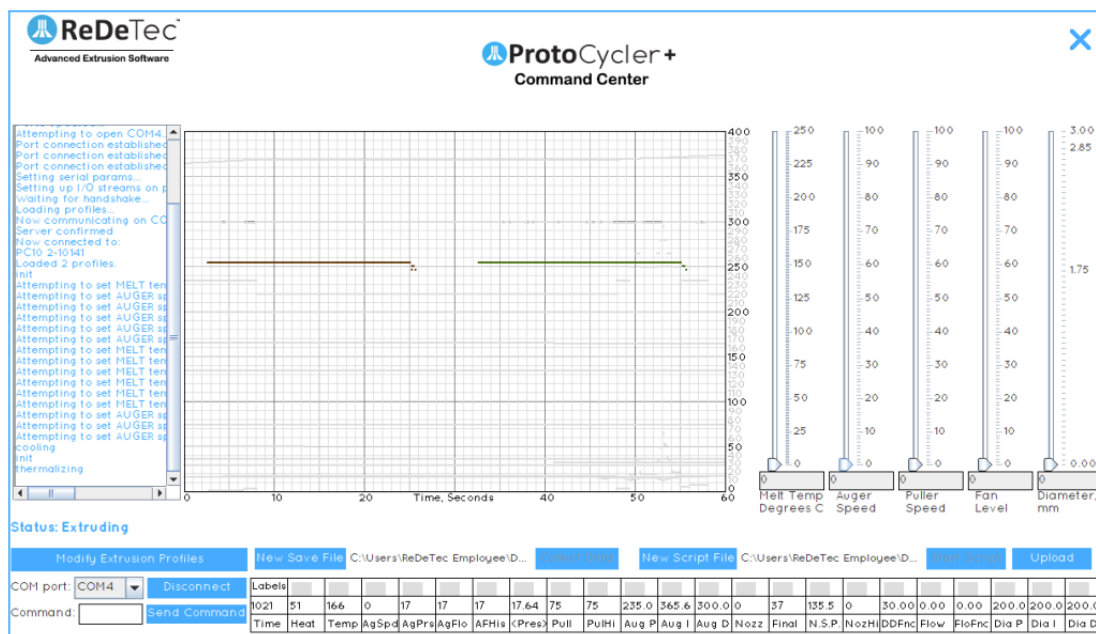

Figure 10a: Startup screen of manual extrusion with all readings toggled off (by clicking the “Labels” button above the “Time” readout).
The two flat lines seen in Figure 10a represent the raw data read by the light sensor photoresistor array for the diameter of filament at the nozzle (left - brown line) and the final diameter of the filament at the puller wheel (right - dark green line). These lines being flat at a value of 255 (with a small amount of “drop-off” on the right) is a good sign that your light guides are well aligned. If the light guides are lower than 255 or have severe angles to them, such as Figure 10b below, then alignment is required.
1. If the sensor is not evenly lit (Figure 10b), the LED needs to be re-aimed to ensure that the response curve shown in Figure 10a is obtained. The process is the same for both the Nozzle and Puller sensors.
3. Version 1.0 has two screws facing "up", which push on opposite sides of a lever to angle the LED shaft. To aim the LED up, first loosen the front screw (farther from the user), then tighten the back screw (closer to the user). To aim the LED down, first loosen the rear screw, then tighten the front screw. Adjust the LED incrementally, monitoring the response pattern shown on the screen until it is an even response as shown in Figure 10a. Finally, ensure both screws are tightened to prevent further movement. **Always loosen one screw before tightening the other. Also, be sure to not overtighten the screws - they should just be snug.**
4. Version 1.1 has only one screw facing "up", that clamps the LED shaft in position. To adjust the LED, first loosen the screw. Then use the shaft knob on the left side of the light guide to adjust the angle of the LED. You may want to support the other end of the shaft with your thumb for more control - see Figure 12 below for reference. When the desired response pattern as shown in Figure 10a is obtained, simply re-tighten the screw.